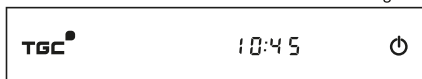

Fig. 6-9
- ii.) TGC indicator lights, other function icons are not displayed (Fig. 6-9). The control is locked.